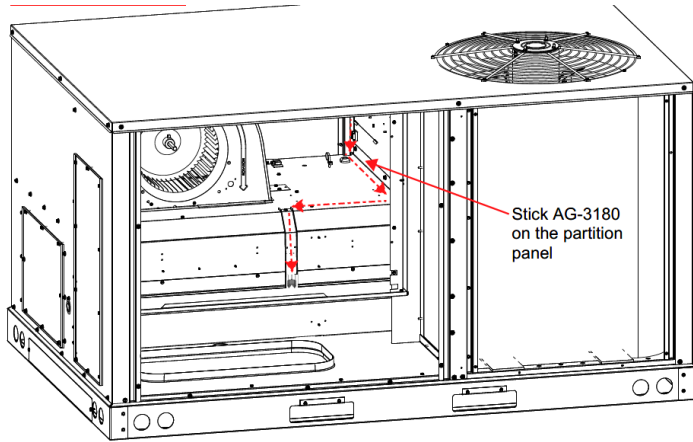

Figure 8
9. Once the bracket-micro sensor assembly is mounted, route wires as shown in Figure 8. Bundle and zip tie any excess wire, and use the supplied cord clip (PSA backing) to secure the wire to the blower deck and/or partition panel.